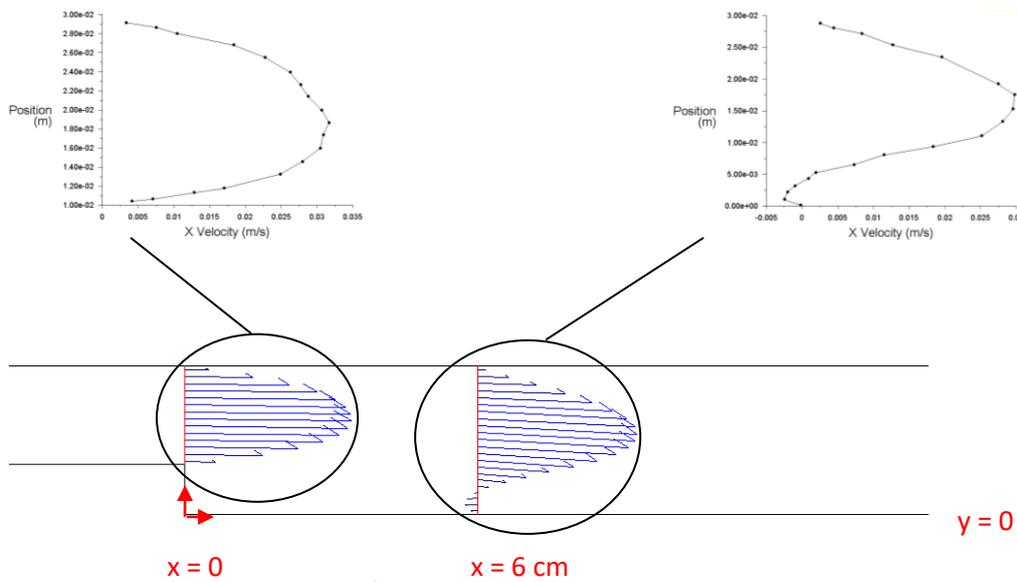

Fig. 3 Cuts at locations $x=0$ and 6.
14. Define additional surfaces (line segments) at $x=0\text{m}$, $x=0.06\text{m}$ and $y=0\text{m}$ using **Setting up Domain/Surface/Iso-Surface/Surface of Constant/Mesh/X-Coordinate** option (fig 3). Make the two vertical line segments: $x = 0\text{m}$, $x = 0.06\text{m}$ - specify appropriate values of x under **Iso-Values**. Make the horizontal line segment corresponding to the bottom wall, if necessary. Select the Y-coordinate under **Surface/Iso-Surface/Surface of Constant/Mesh**. Specify $y=0\text{m}$. Show the grid together with the three created line segments (**Mesh/Display**).
15. Compare the x-velocity profiles along : $x = 0\text{m}$ and $x = 0.06\text{m}$ with experimental data (fig. 3) using **Results / Plots / XY Plot**. The experimental data are given in the folder „dane_eksperyment“. Read the experimental profiles using **Load File**.
Think about how the variables should be assigned to the x and y axes (see fig 3). Deselect the **Position on x axis** . Assign the x-velocity component to the horizontal axis and y-distance to the vertical axis. In order to show the results along the y-direction (two vertical lines at $x=0$ and